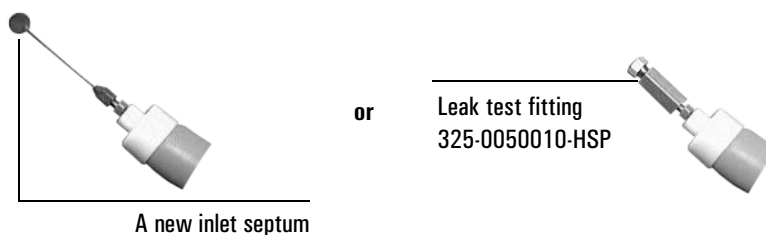

Figure 29. Plug the transfer line
2. Detach the transfer line from the inlet or interface and plug it with either a new inlet septum or a leak test fitting as shown in Figure 29.